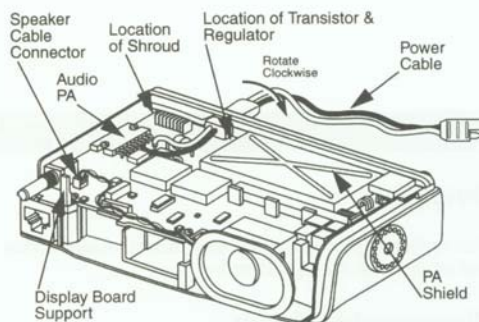

Figure 1-3. Position of Speaker Cable
2. Replace the 14 mounting screws and display board support (refer to Figure 1-3) into main board using a T10 Torx driver. Torque the 2 screws on the audio PA and the 2 screws on the transistor and regulator at 6-8 in-lbs. Torque the remaining 10 screws at 8-10 in-lbs.
Power cable should be routed around component properly and gently pressed into position (Figure 1-3).
Speaker cable should be routed in front of the 10-position black header on the main board to prevent the housing's rear hook from dislodging and damaging the speaker connector when replacing the housing (Figure 1-3).